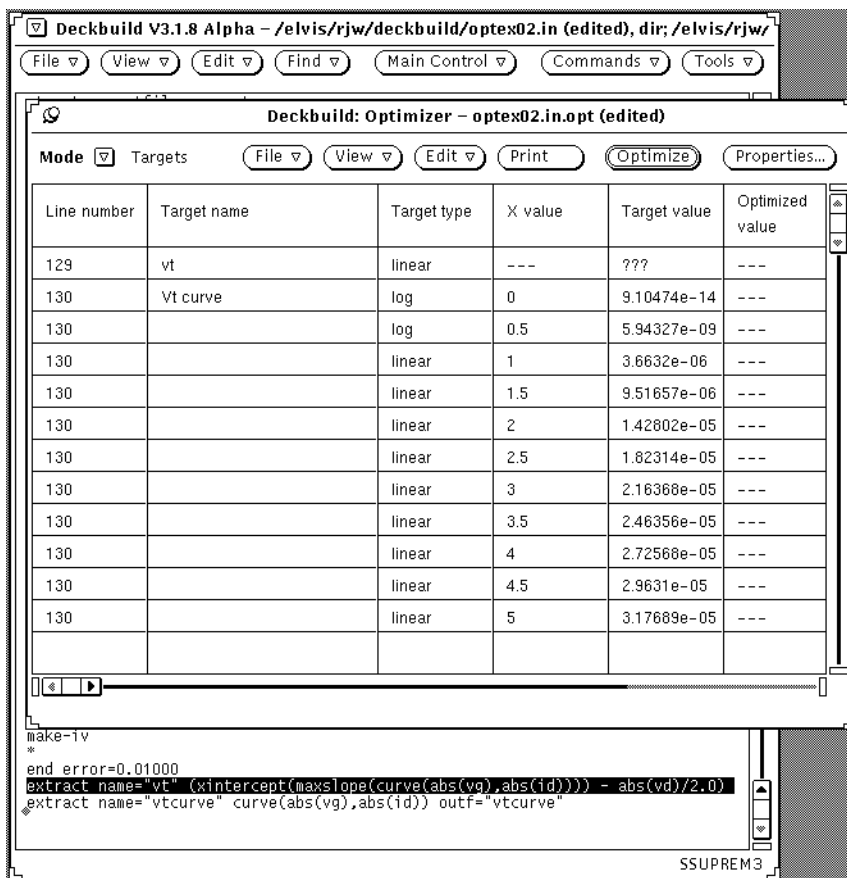

Figure 6-14: Targets Added to Worksheet
3. Choose **Add** from the **Edit** pull-down menu. To do this, move the pointer over the **Edit** button, click **MENU** and select **Add** (Figure 6-14).